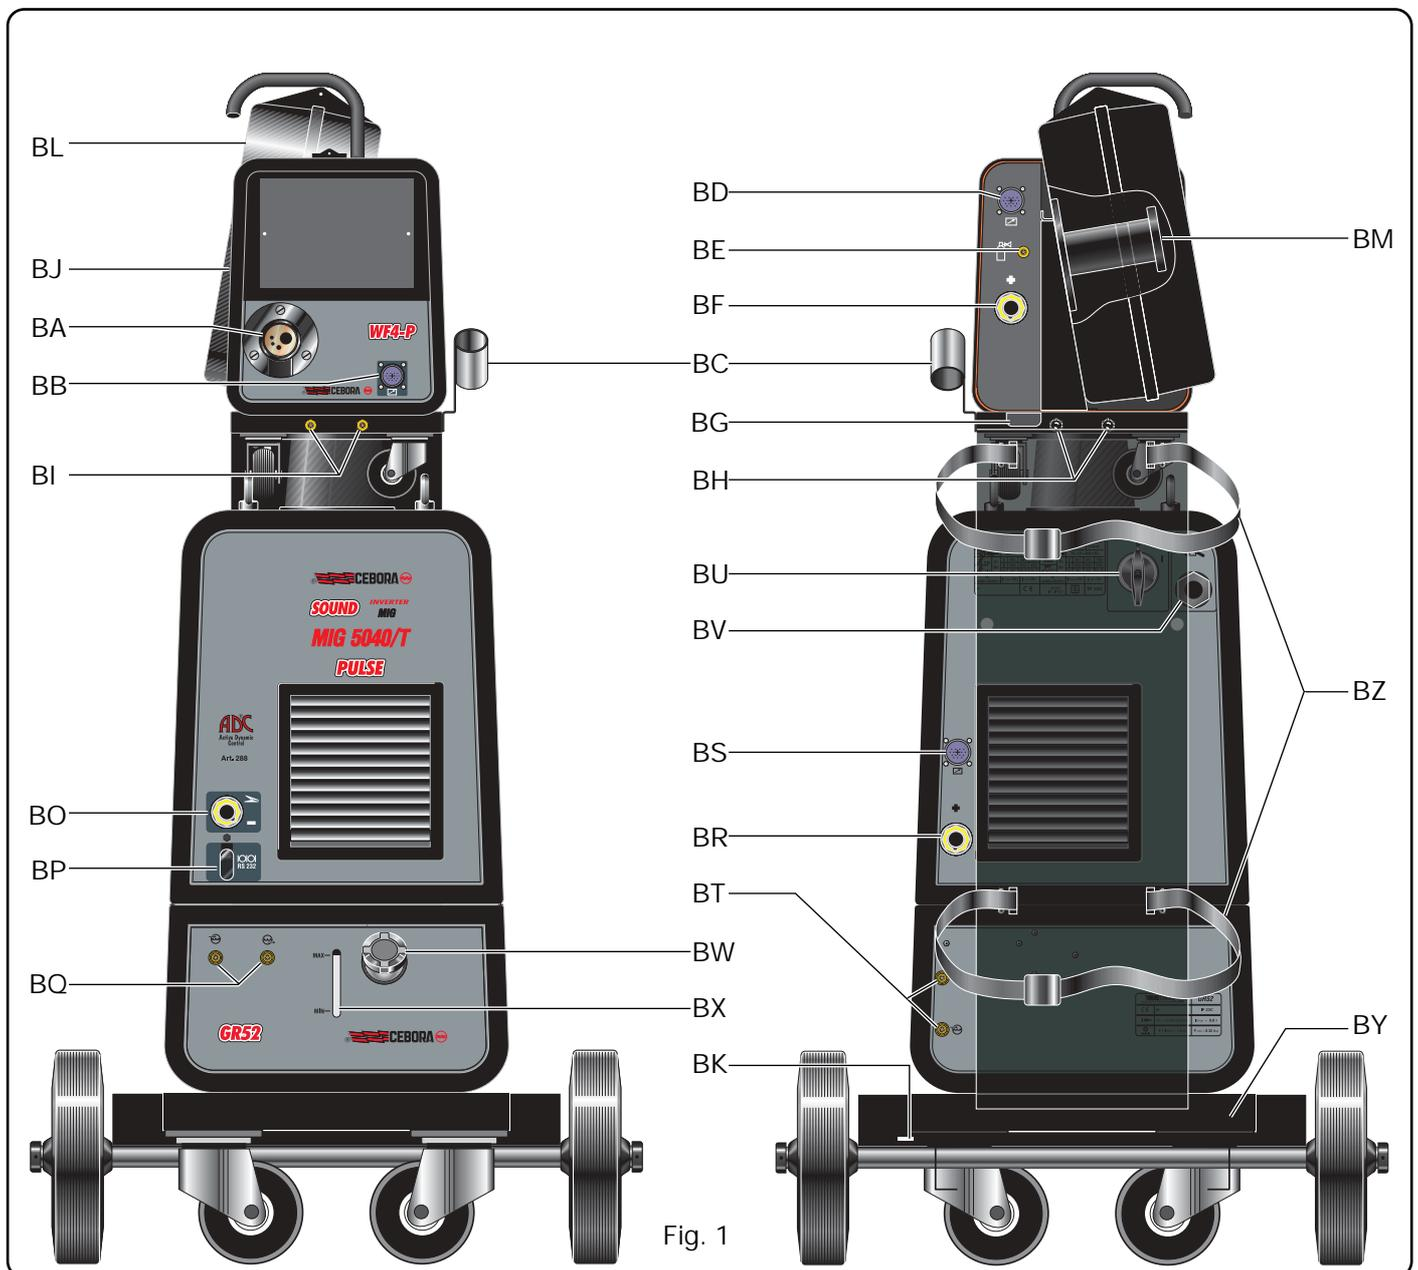

Fig. 1
#### 2.1.2 Description of the power source (Fig. 1)
**2.2.1 Description of the wire feeder (Fig. 1)**
#### 2.3.3 DESCRIPTION OF THE COOLING UNIT (Fig. 1)
### 2.4 TROLLEY (Fig. 1)